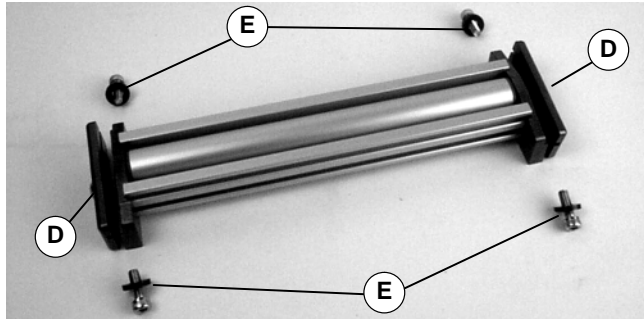

Figure 4
2. Assemble components as shown (Figure 4). Loosen (but do not remove) screws (D) and remove screws and washers (E).